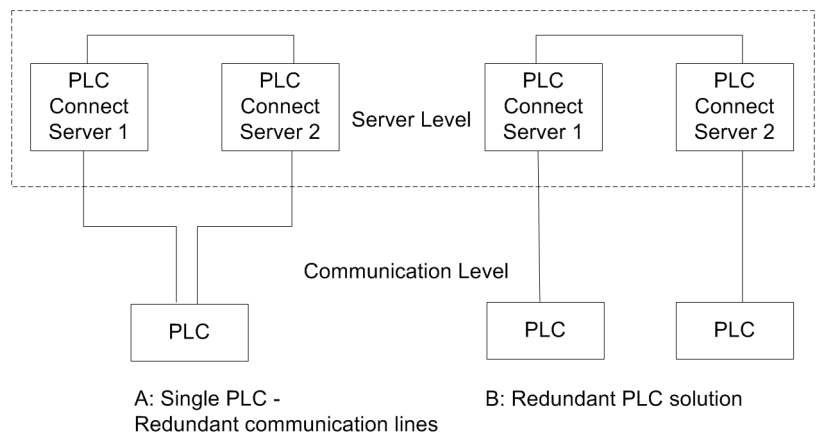

Figure 19. Different Redundancy Levels
- If there is only one PLC connected and this is broken, the Connectivity server will start oscillate. Refer to A: in Figure 19.